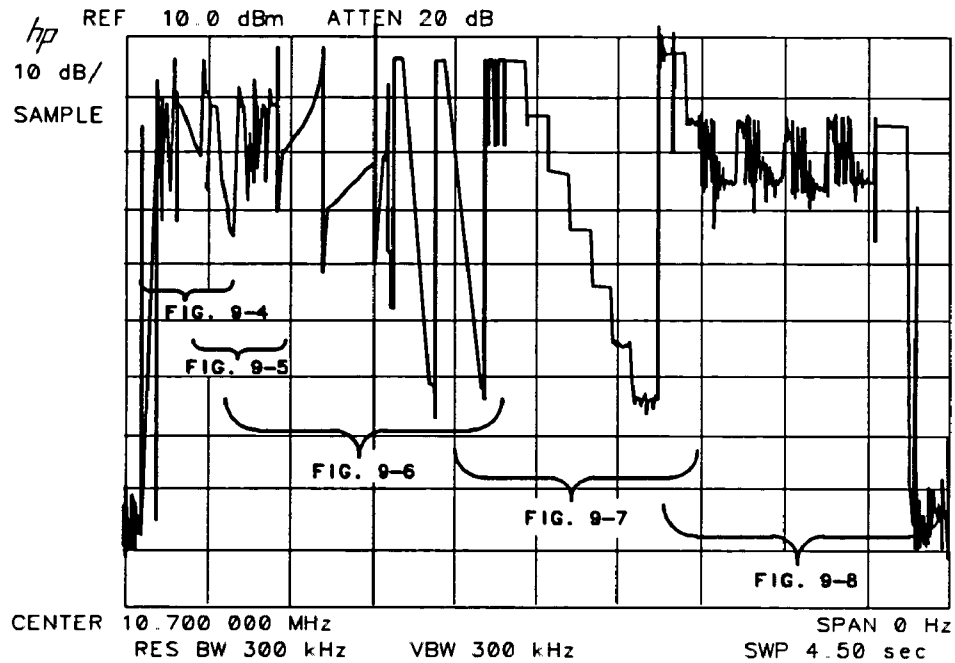

Figure 9-3. IF Adjust Signature
8. Compare the IF signature to the signature of a properly-operating HP 8562A/B illustrated in Figure 9-3. If the signatures do not closely resemble each other, a more detailed view of the signature may show the failed hardware.